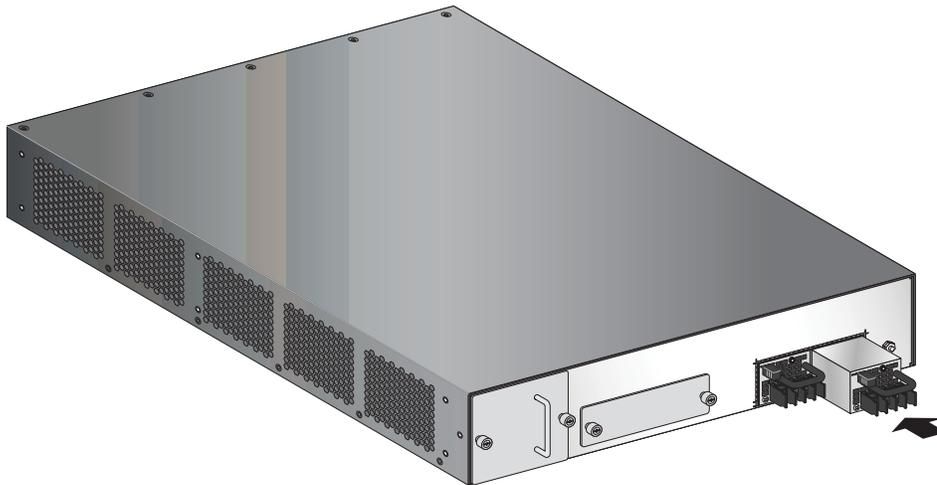

Figure 12. DC Power Supply Replacement
2. Use the handle to slide the power supply out of the device, as shown in Figure 12.